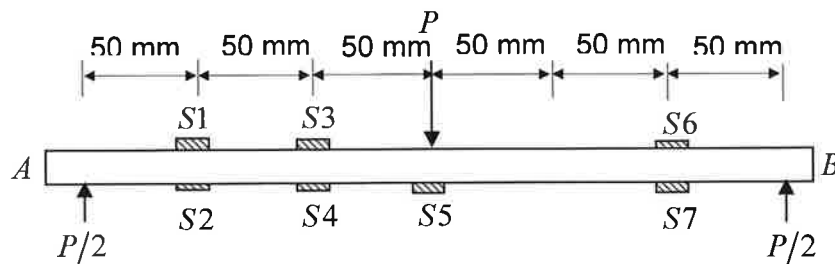

Figure 2 Free-body diagram of beam AB where $S1, S2, S3, \dots, S7$ represents strain gauges mounted on the upper and lower surfaces of the beam
- Beam specimen mounted with strain gauges (as shown in Figure 2).